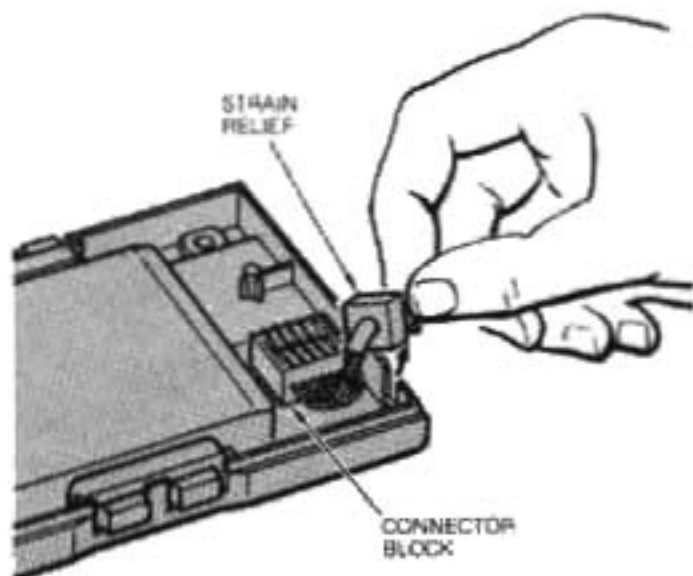

Figure 4-4
6) Remove the cable from the lower housing by lifting the cable strain relief up and out of the housing. Pry up the cable connector block from its mount in the housing. **CAUTION:** Be careful not to touch or bend the metal prongs. (See Figures 4-4 and 4-5.)
1) Place the replacement cable assembly in the lower housing as shown in Figure 4-4 and 4-5.